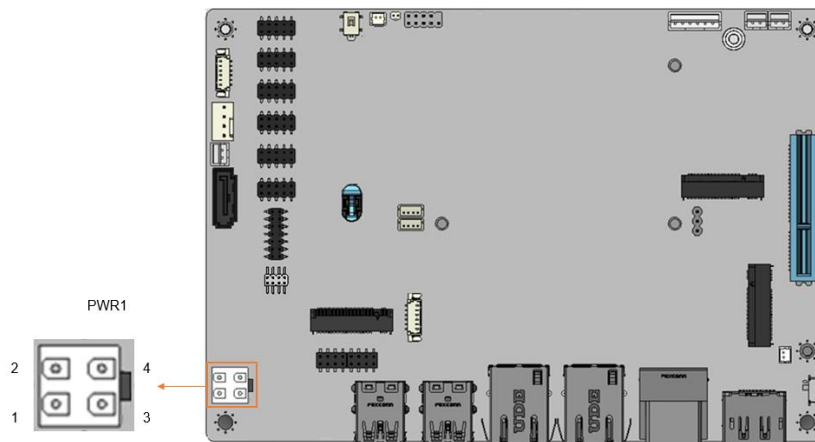

Figure 3-4: 12V Power Input Connector Location
- CN Location:** See **Figure 3-4**